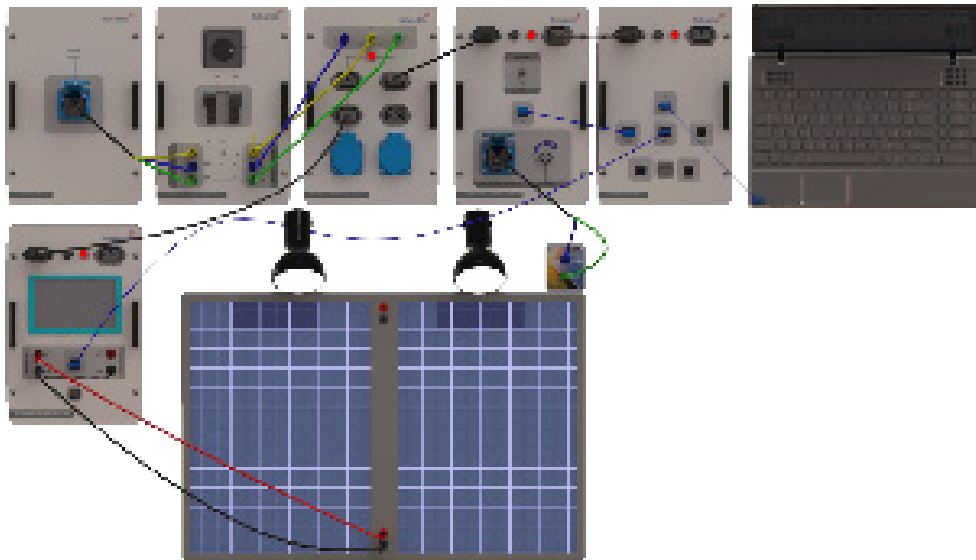

Figure-1
2) Connect as shown in figure-1. Stabilize the quantity of light in the laboratory at a medium. Changing the position of the lamp or the curtains will affect the results of the experiment.